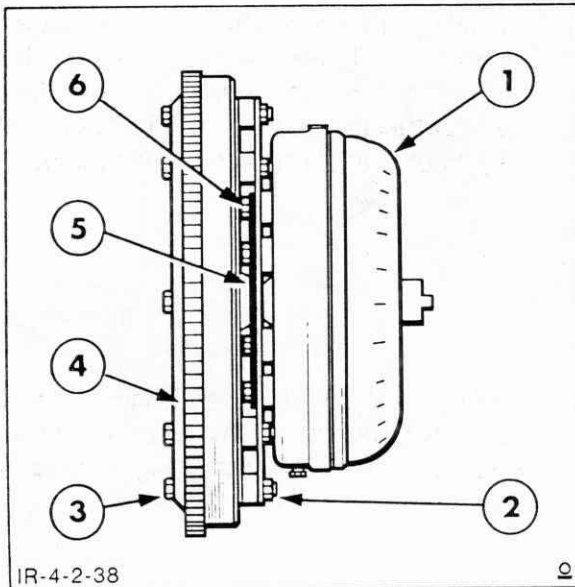

Figure 4-140
1. Secure the drive plate to the torque converter, Figure 4-140, with the six attaching bolts and flat washers. Tighten the bolts to 32 ft. lbs.